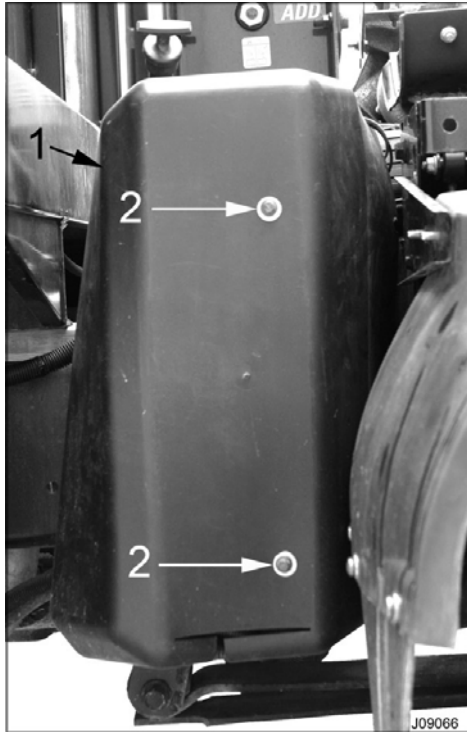

Figure 1 Distribution Center Cover
2. Bolt (2)
4. Remove the two bolts securing the power distribution center cover (Figure 1). Remove cover.